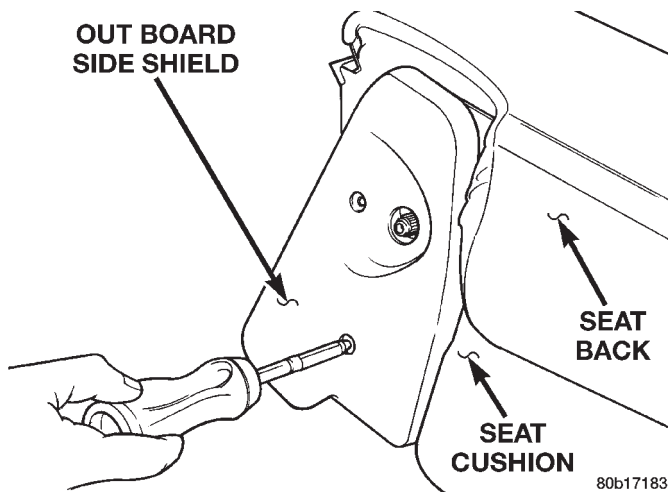

Fig. 6 2nd Row Seat Side Shield
- (1) Tumble seat forward.
- (2) Remove tumble release outboard handle.
- (3) Remove inboard & outboard side shields (Fig. 6).
- (1) Position seat back in vehicle.
- (2) Install bolts attaching hinge to seat back. Tighten bolts to 27 N·m (19 ft. lbs.) torque.
- (3) Engage inboard and outboard J-straps.
- (4) Install inboard & outboard side shields (Fig. 6).
- (5) Install tumble release outboard handle.
- (6) Return seat to tumble position.